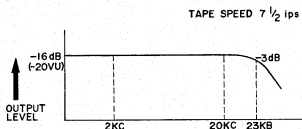

Fig. 18
- 2) Adjust REC Amp. P.C. Board semi-fixed capacitors TC1, TC2 (70P) so that a 20 kHz signal output level is the same in relation to 2,000 Hz. (See Fig. 18)